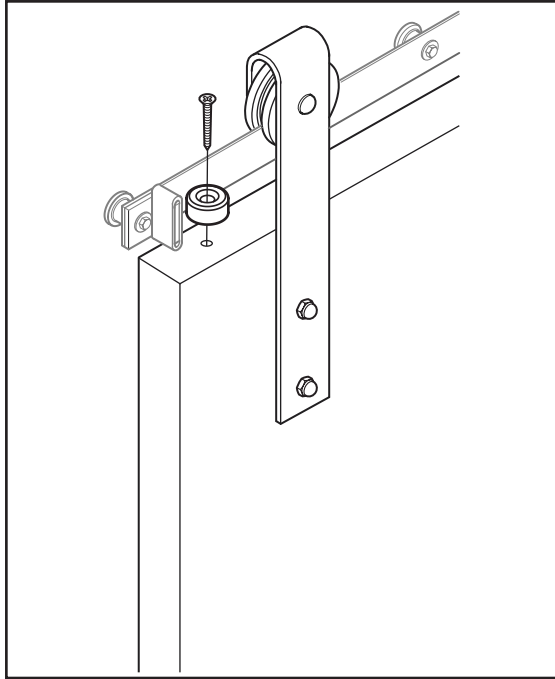

Figure 9
17. Place the Anti-Jump block on the top of the door (Figure 9). Using a drill with a phillips bit, install the the block with the 1" phillips screw (provided).